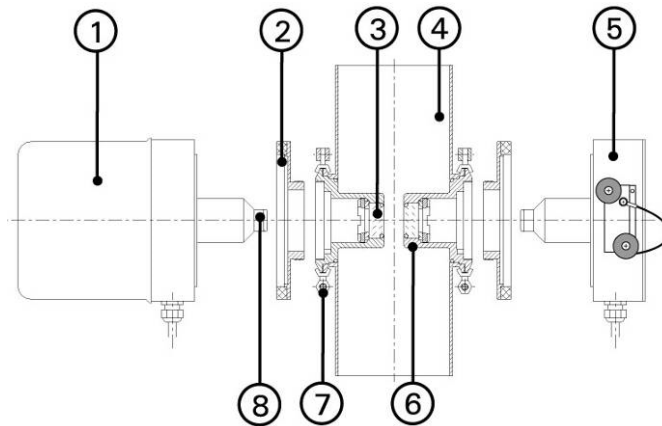

Figure 8 : Cross-section of ColorPlus 2
The ColorPlus 2 is delivered with an OPL bit (Figure 8, pos. 6) on both sides for installation in an inline housing. The OPL bits with measuring cell window (Figure 8, pos. 3), the corresponding flood protection (Figure 8, pos. 8) and ring adapter (Figure 8, pos. 2) are already installed according to customer requirements at the factory.
| 2. | Loosely position the transmitter/receiver on the inline housing with the lock ring (Figure 8, pos. 7) and tighten with the nut (A).   |                          |